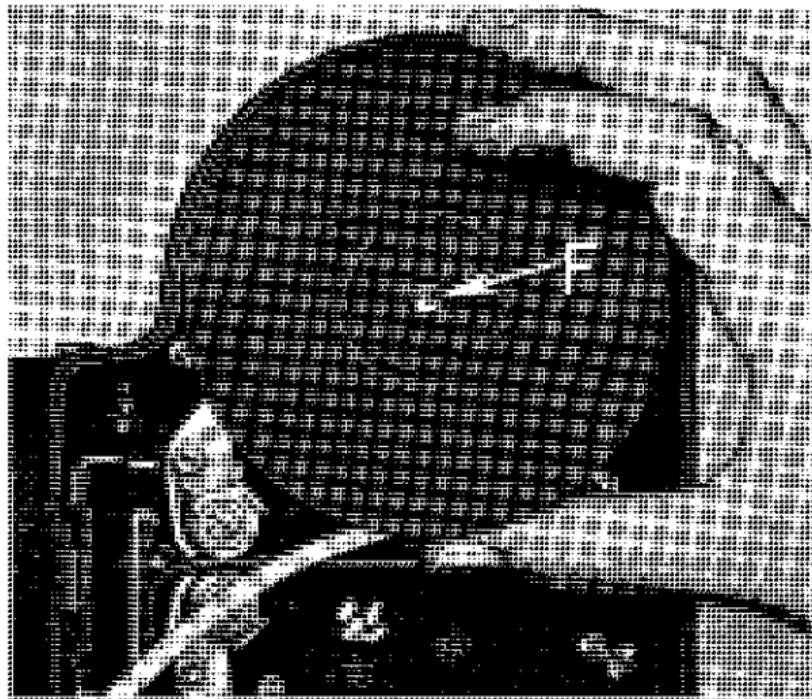
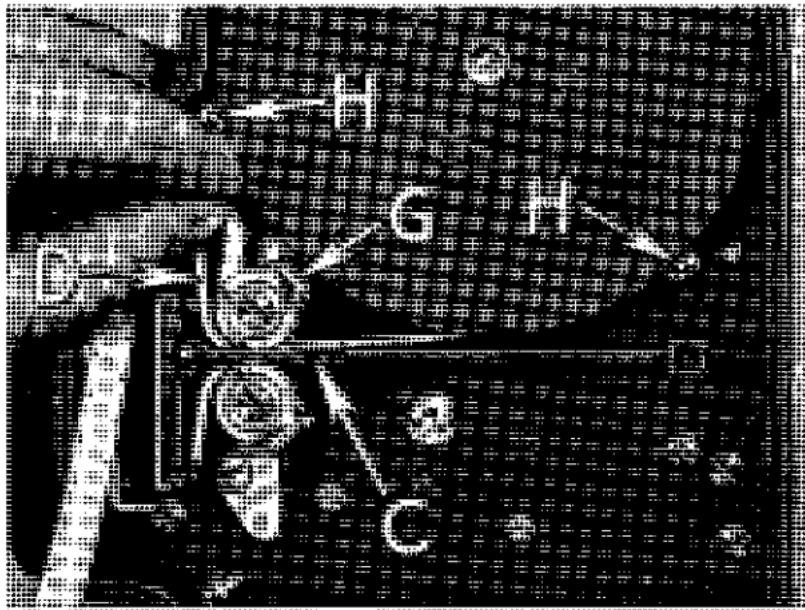

Figure 4
Figure 5
With the square hole down and the leader feeding off the bottom of the spool to the left, as shown in Figure 4, place the spool over the feed spool spindle —F, Figure 4. Be sure that the two floating film guard rollers (H, Figure 5) are outside the film.
5. Insert the leader between the gate arm C and the feed sprocket G, passing it also between the feed sprocket and the upper film guide shoe D, as shown in Figure 5. See that the leader perforations are engaged with the sprocket teeth.